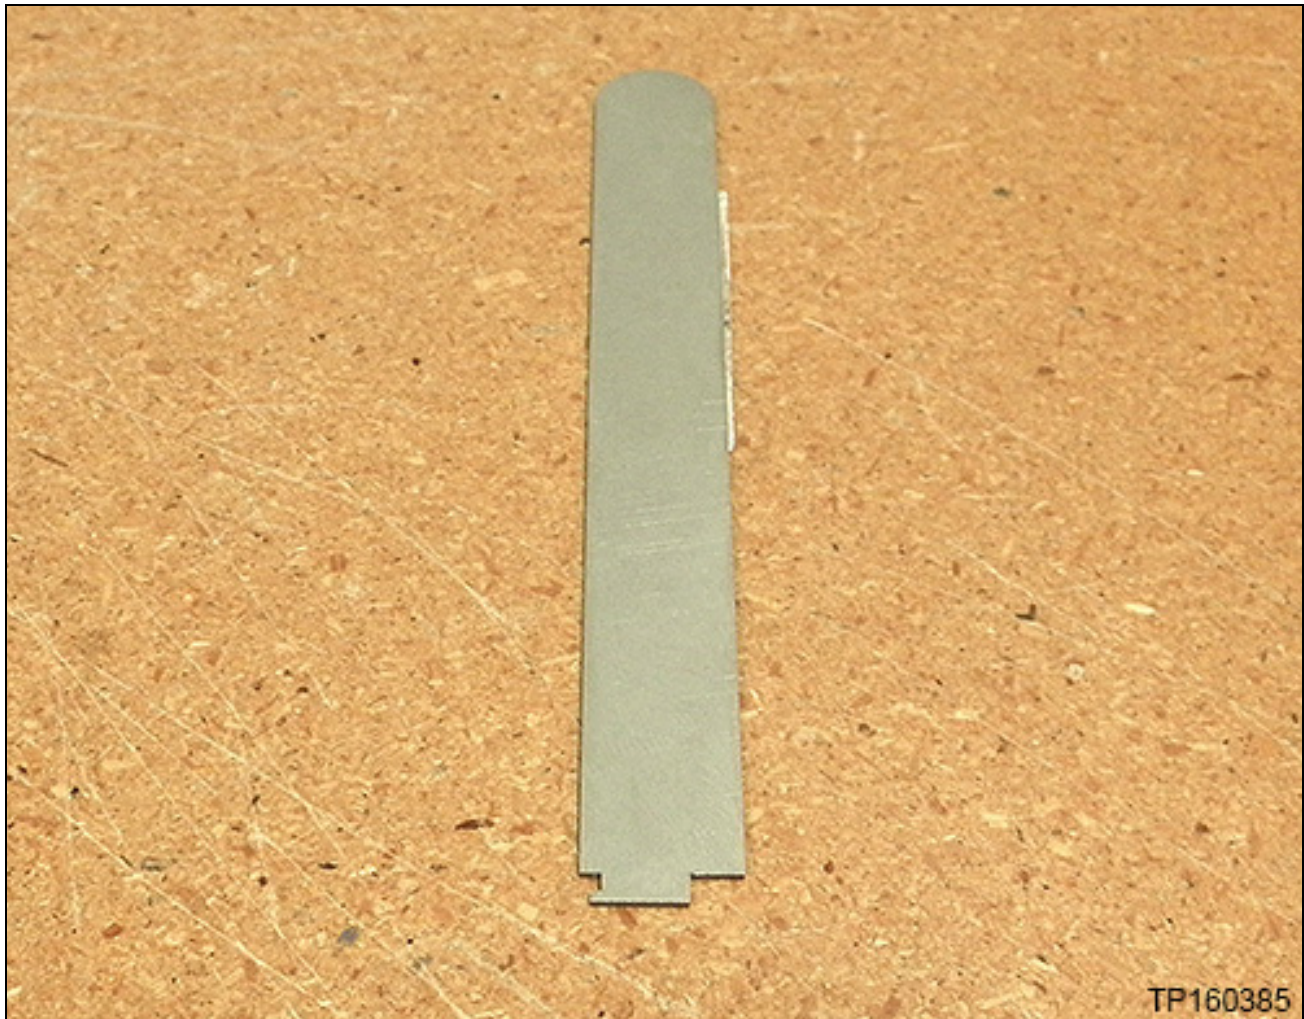

Figure 1
- One Airbag Socket Depth Gauge (J-52258), shown in Figure 1, was sent to each dealer.